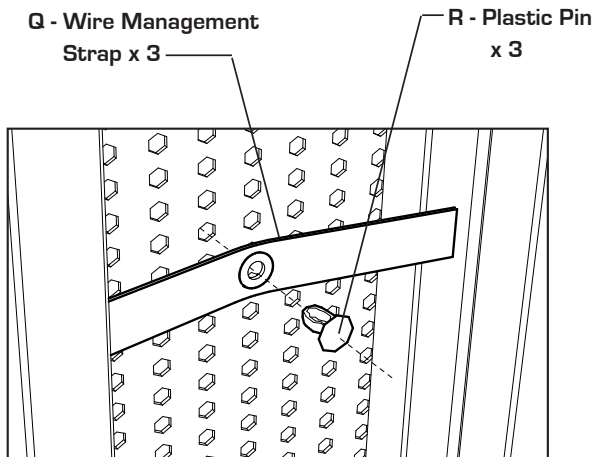

Figure 7
**Wire Management Straps (Q)** attach to the perforated metal panel inside the Vista spine simply by pushing the **Plastic Pin (R)** into the hole in the center of the strap and into one of the holes on the panel (Figure 7). Wrap straps around cords as shown (Figure 8). Straps may be relocated simply by pulling out and pushing plastic pin into another hole.